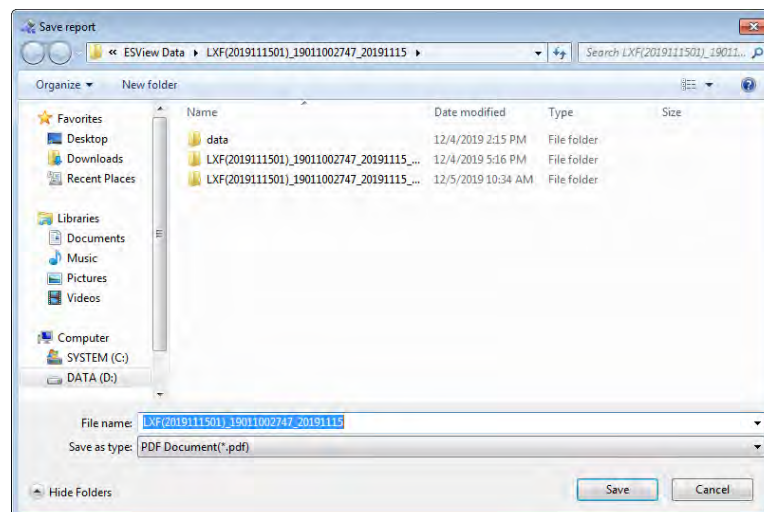
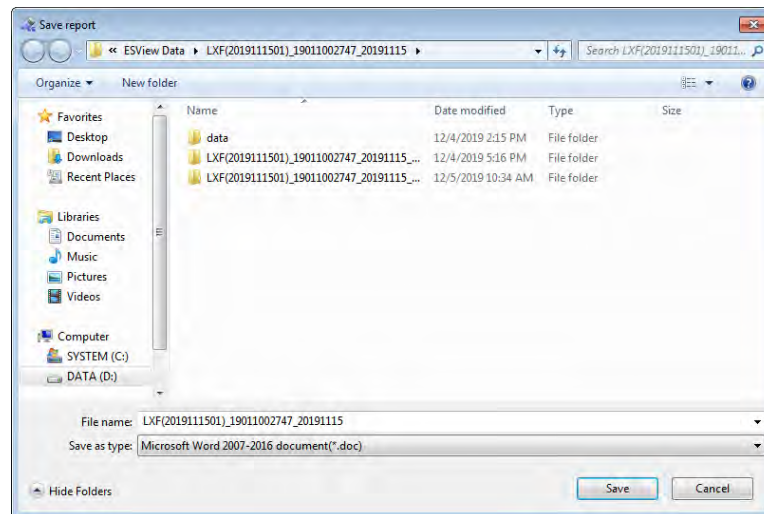
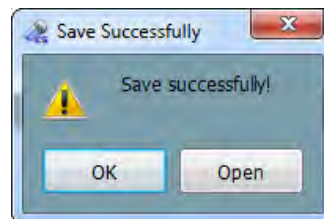

Figure 4-56: Save Report in .pdf Format
Figure 4-57: Save Report in .doc Format
Figure 4-58: Saving Success Dialog Box
7. In the report generation interface, click "Save report", choose a directory and click "Save" to save the case report (Figure 4-56). The software saves reports in *.pdf format by default. The user may also choose to save reports in *.doc format (Figure 4-57). After saving, a dialog box will appear to indicate saving success (Figure 4-58). Click "OK" to complete report saving or click "Open" to open the saved report.